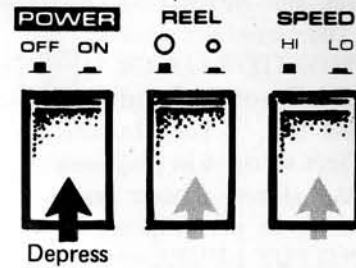

Fig. 23
2. Depress the power switch (Fig. 23).
3. Confirm REEL SIZE SELECTOR button setting (Fig. 23). Depressed position is for 7in (17cm) reels and raised position for 10-1/2in (26cm) reels. It is important to check this selector button setting, as improper tape tension can impart stresses on the tape. When restoring the button to the raised position, push it and release.
4. Set SPEED switch for desired tape speed (Fig. 23).